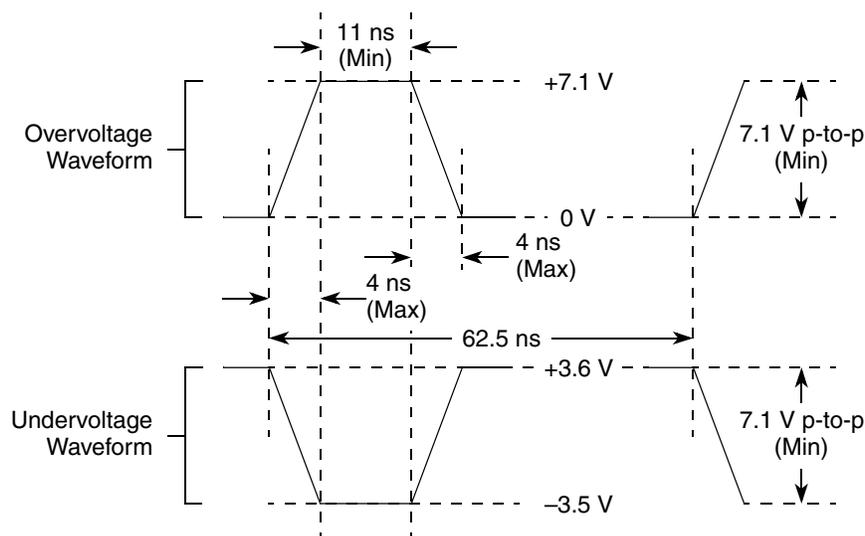

Figure 3. Maximum AC Waveforms on PCI interface for 3.3-V Signaling
- OV_{IN} on the PCI interface can overshoot/undershoot according to the PCI Electrical Specification for 3.3-V operation, as shown in Figure 3.
Figure 3 shows the undershoot and overshoot voltage of the PCI interface of the MPC8347EA for the 3.3-V signals, respectively.